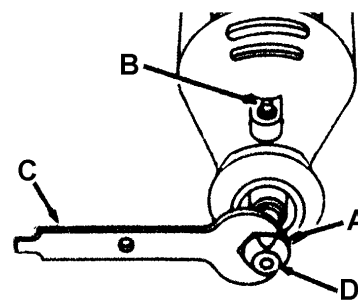

Figure 2
**Collet Nut-** To loosen the collet nut (A) Fig.2, press shaft lock button (B) and rotate the tool shaft by hand until the lock engages the shaft preventing further rotation.